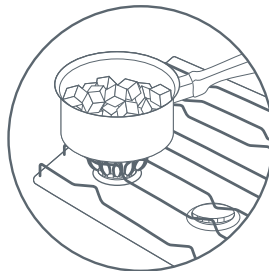

Fig. 7
- If you use solid vegetable oil, cut it into small pieces and melt it in a separate pan – fig. 7. Pour the melted oil into the fryer bowl. Never melt solid fat on the heating element or in the frying basket.